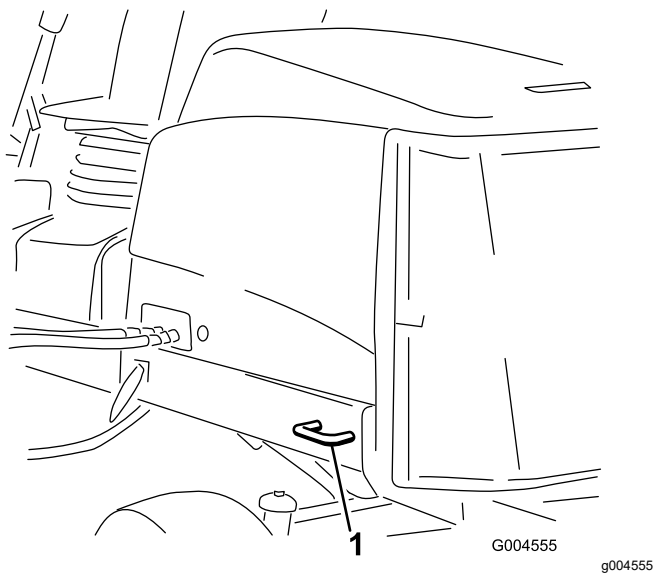

Figure 34
- **Rear of the machine**—each side of the machine on the rear frame (Figure 34).